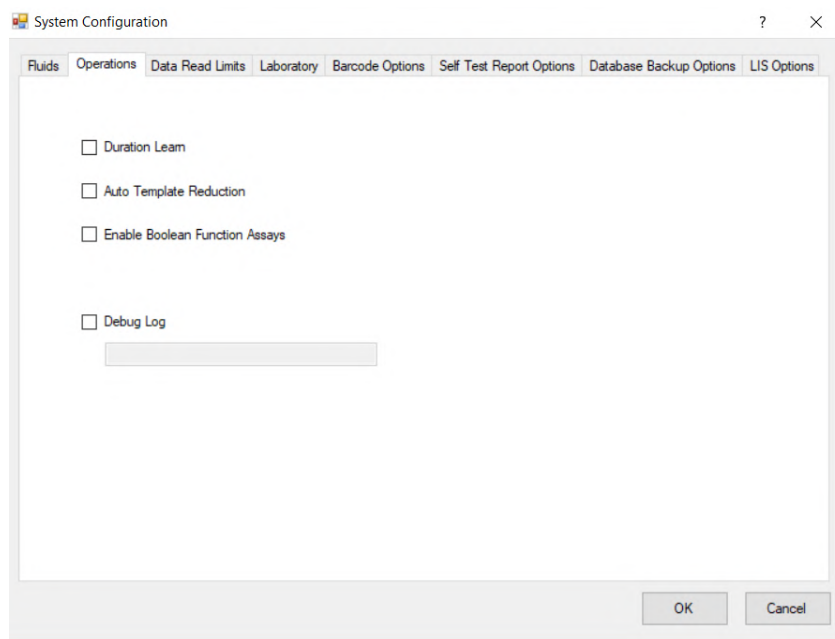

Figure 44: System Configuration – Operations Tab
1. Click **System Configuration** on the tools menu to display the *System Configuration* window (Figure 44), then click *Operations* tab.